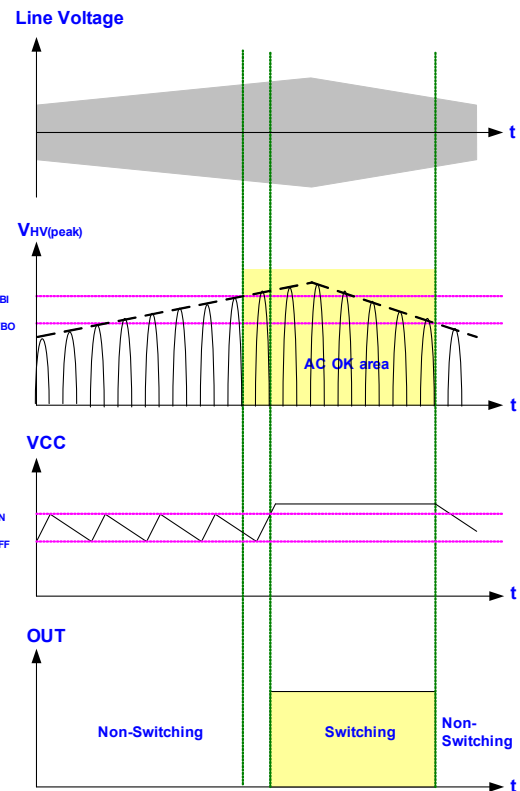

Fig. 11
The LD5763M1 features burn-in/out function on HV pin. As the built-in comparator detects the half wave rectify line voltage condition, it will shut off the controller to prevent from any damage. Fig. 11 shows the operation. When  $V_{HV} < HVBO$ , the gate output will remain off even when the VCC already reaches UVLO(ON). It therefore forces the VCC hiccup between UVLO(ON) and UVLO(OFF). Unless the line voltage rises over  $HVBI$   $V_{AC}$ , the gate output will not start switching even as the next UVLO(ON) is tripped. A hysteresis is implemented to prevent the false-triggering during turn-on and turn-off.